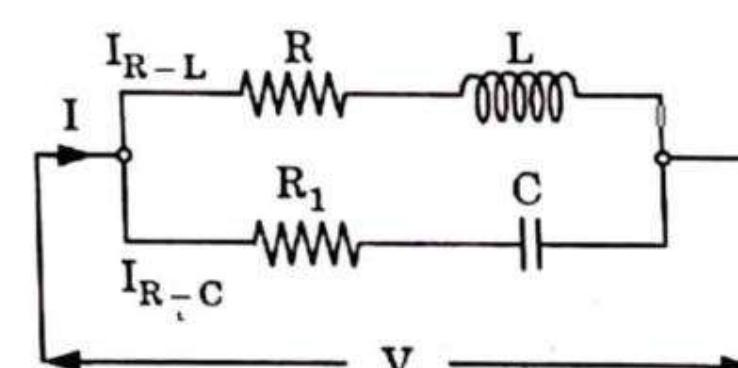

Fig. 2.32.1.
1. Consider a coil in parallel with a condenser, as shown in Fig. 2.32.1.